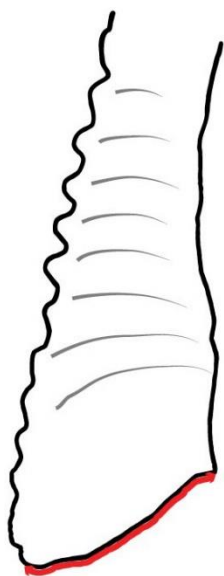
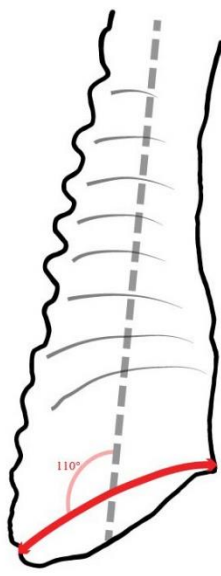

Figure 7
Figure 8
2. Circumference. Measure the circumference of the base of each horn in a continuous loop at a 90-degree angle to the axis of the horn. Note that all bases of category 7-a animals must be measured as close as possible to the horn base at a 90-degree angle to the axis of the horn. This remains true even through, in rare cases, animals such as duikers may, in fact, have a larger circumference farther up the horn. (Figures 7 and 8)
Most horns at the base will not resemble a piece of water pipe that has been cut off at a 90-degree angle. To measure the circumference of your trophy, find the lowest point where the tape measure can circumscribe the horn without it stretching over any “air gaps” as it goes around. In some cases the horns may have valleys or deep grooves along the base of the horn. The tape measure must not be pressed into these grooves or valleys but must span from one high point to the next. Circumferences must always be measured in a continuous loop and at a 90-degree angle to the axis of the horn. (Figure 8) Do not “follow the border” by measuring along the outer edge of a horn and do not weave the tape measure up and down. (Figure 7) The tape measure must circumscribe a continuous and even circle. Only steel tapes may be used for circumference measurements. Unusually swollen, diseased, or malformed horns must be noted on the entry form.